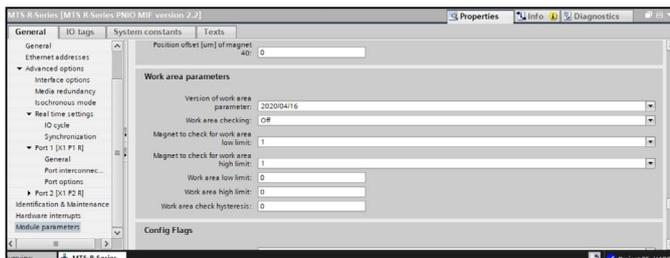

Fig. 117: Setting the switching points for the work area
- **Setting the switching points for input module “Sensor status 2”:** To read the information from the input module “Sensor status 2”, drag this module into the “Device Overview” window. In the “Module parameters” section of the sensor, you can set the parameters for switching points under “Work area parameters” (Fig. 117):